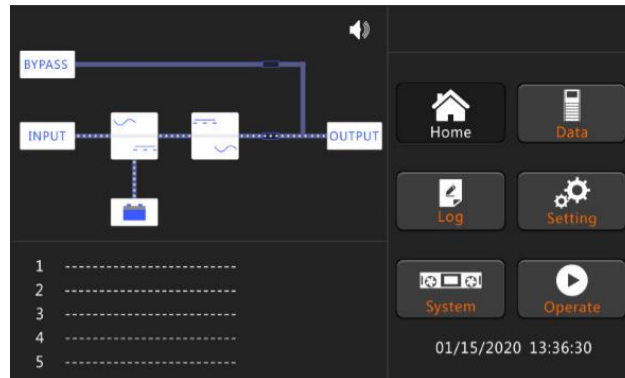

Fig.4-5 LCD of normal mode
8. Close the external battery switch, the battery indicator flashes, and then the UPS charges the battery. The UPS works in normal mode, as shown in Figure 4-5